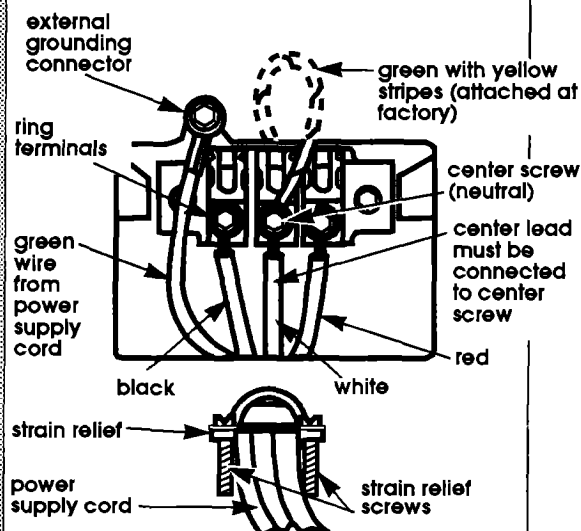

Figure 16
4. Remove the center terminal block screw. Remove the neutral green with yellow stripe grounding wire from external grounding conductor screw. Connect neutral green with yellow stripe grounding wire and the neutral wire (white or center) of power supply cord under the center screw of terminal block. Connect the other two insulated wires under outer terminal block screws. Connect the green, grounding wire from the power supply cord to the external grounding conductor screw (see Figure 16). Tighten all terminal block screws firmly.